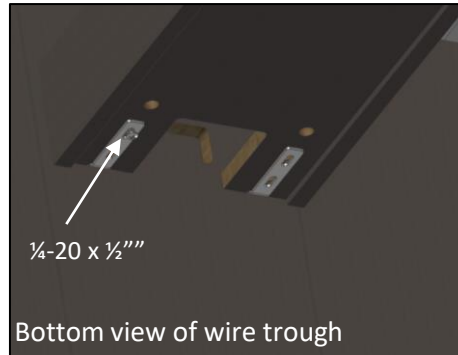

Figure 1
1. Attach the L-Brackets to the underside of the wire trough using 1/4-20 x 1/2" machine screws and the pre-drilled holes near the end of the trough (Figure 1)